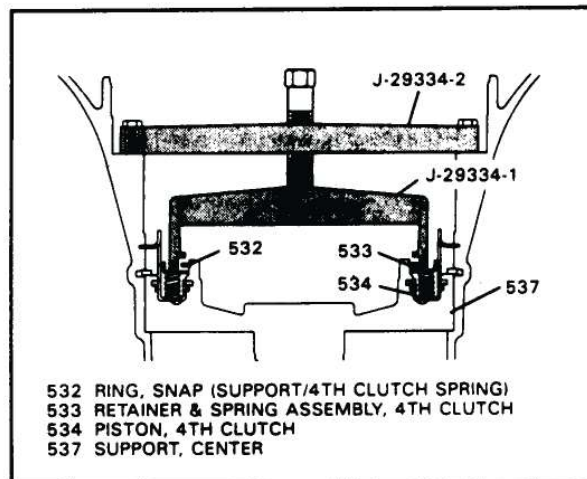

Figure 47
10. Install spring compressor J-29334-1 on the 4th clutch return spring & retainer (See Figure 47).
11. Install compressor J-29334-2 on the case with retaining bolts, as shown in Figure 47.
13. Remove the snap ring (See Figure 47).